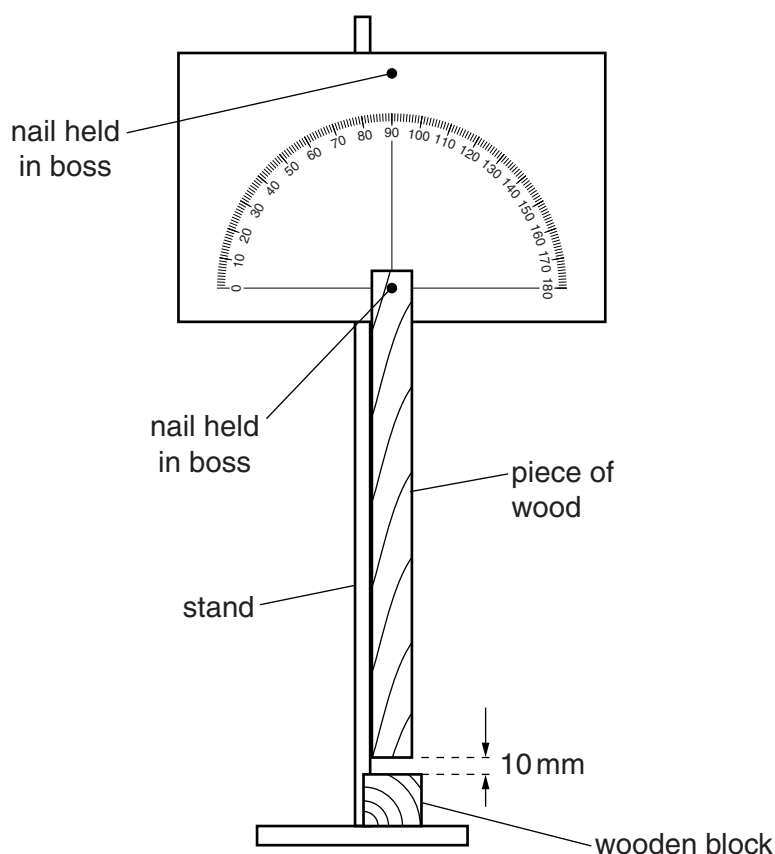

Fig. 2.3
- 4 The apparatus should be partially assembled as shown in Fig. 2.3. One nail passes through the protractor card above the 90° mark and the other passes through the piece of wood and the origin of the protractor. Ensure that the piece of wood swings freely. The thin rod and piece of Blu-Tack should be left on the bench with the copper specimens.